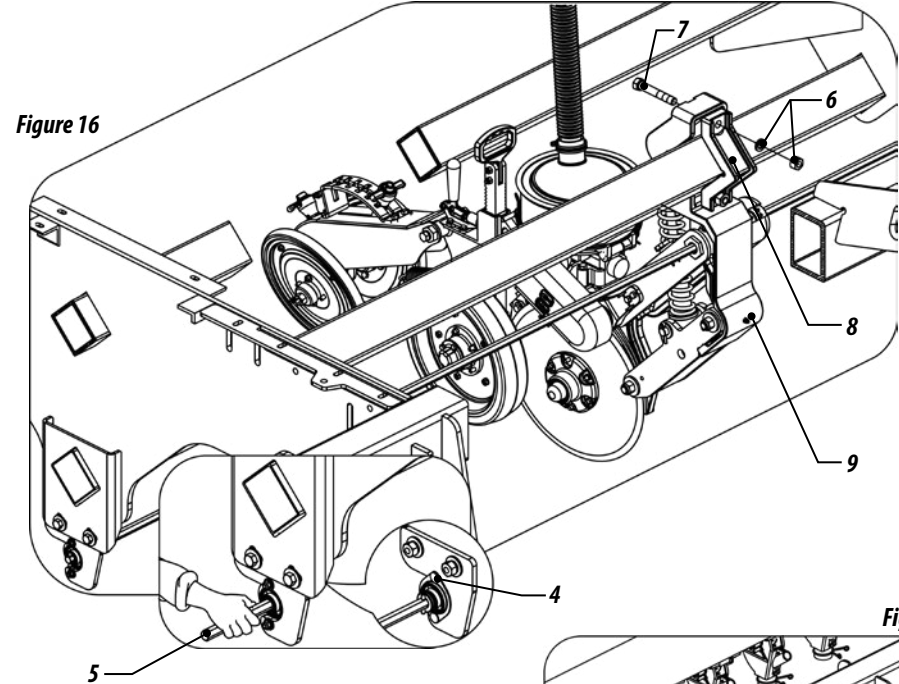

Figure 16
- 4- Remove the latches (4) from the shaft end (5), on both sides of the machine.
- 5- Check the lines to be removed or displaced. Loosen the nuts and washers (6), screw (7), remove the clamp (8).
- 7- Replace the shaft (5) and latches (4). Align the gear and retighten the screws.
- 8- Slide the lines for the selected spacing, retighten the nuts of clamps (8).
- 9- Reposition the latches (4) on the sides and retighten the screws. Figure 16.